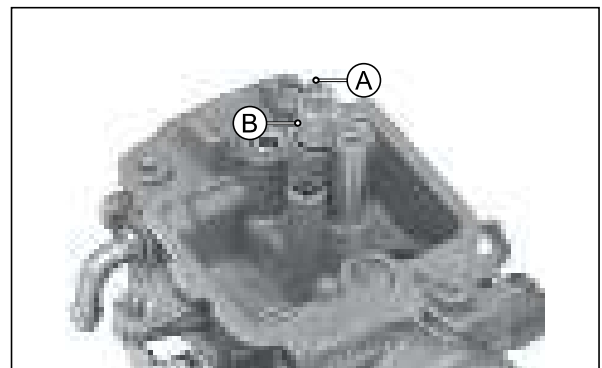

Fig. 4.25
- Remove main jet (A) while holding holder jet needle. (Fig. 4.25)